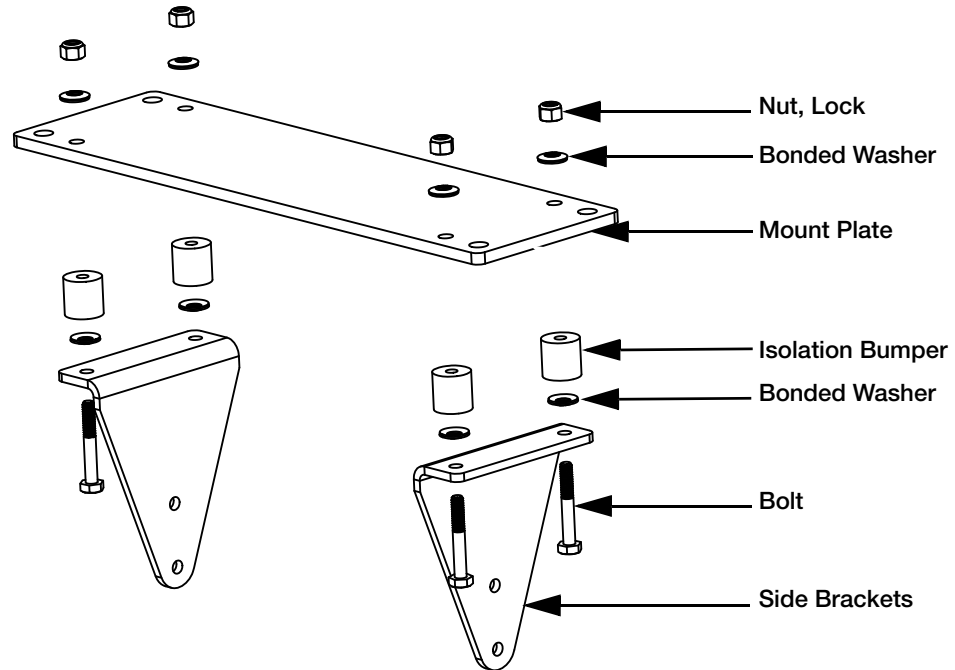

Figure 2-9. Mount Kit (PN 131630)
The universal mounting bracket (included), enables the indicator to be mounted to the safety cage using the supplied hardware. See Figure 2-9.
1. Install side brackets to the mount plate, using isolation bumpers and hardware, in the order shown in Figure 2-9.